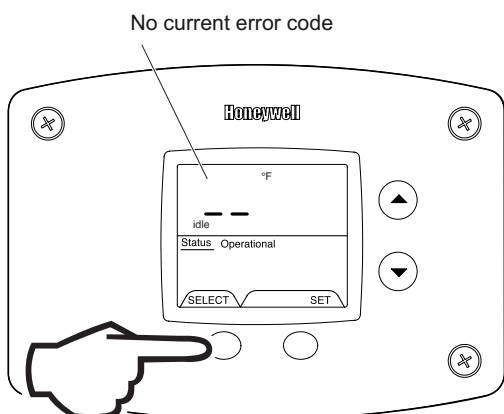

Fig. 75 Error code index
1. In 'Service Mode' press the 'Select' button until the next display after the 'Software Version'. If there are no current error codes, the display will show -- (Fig. 75).